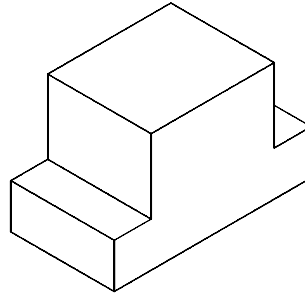

Figure 26-53 Model after subtracting the smaller boxes
10. Change the visual style to **3D Hidden**. The model, after subtracting the boxes, should look similar to the one shown in Figure 26-53.